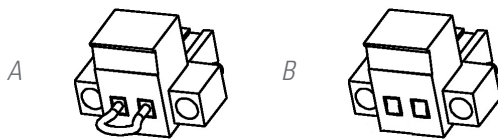

Fig. 6. Connector for external EPO.
- Either by removing the female connector from the socket where it is inserted. This connector has a cable connected as a jumper that closes the circuit (see Fig. 6- A),
- or by pressing the button external to the device belonging to the user installed between the terminals of the connector (see Fig. 6- B). The connection on the button must be in the normally closed contact (NC), so it will open the circuit when activated.